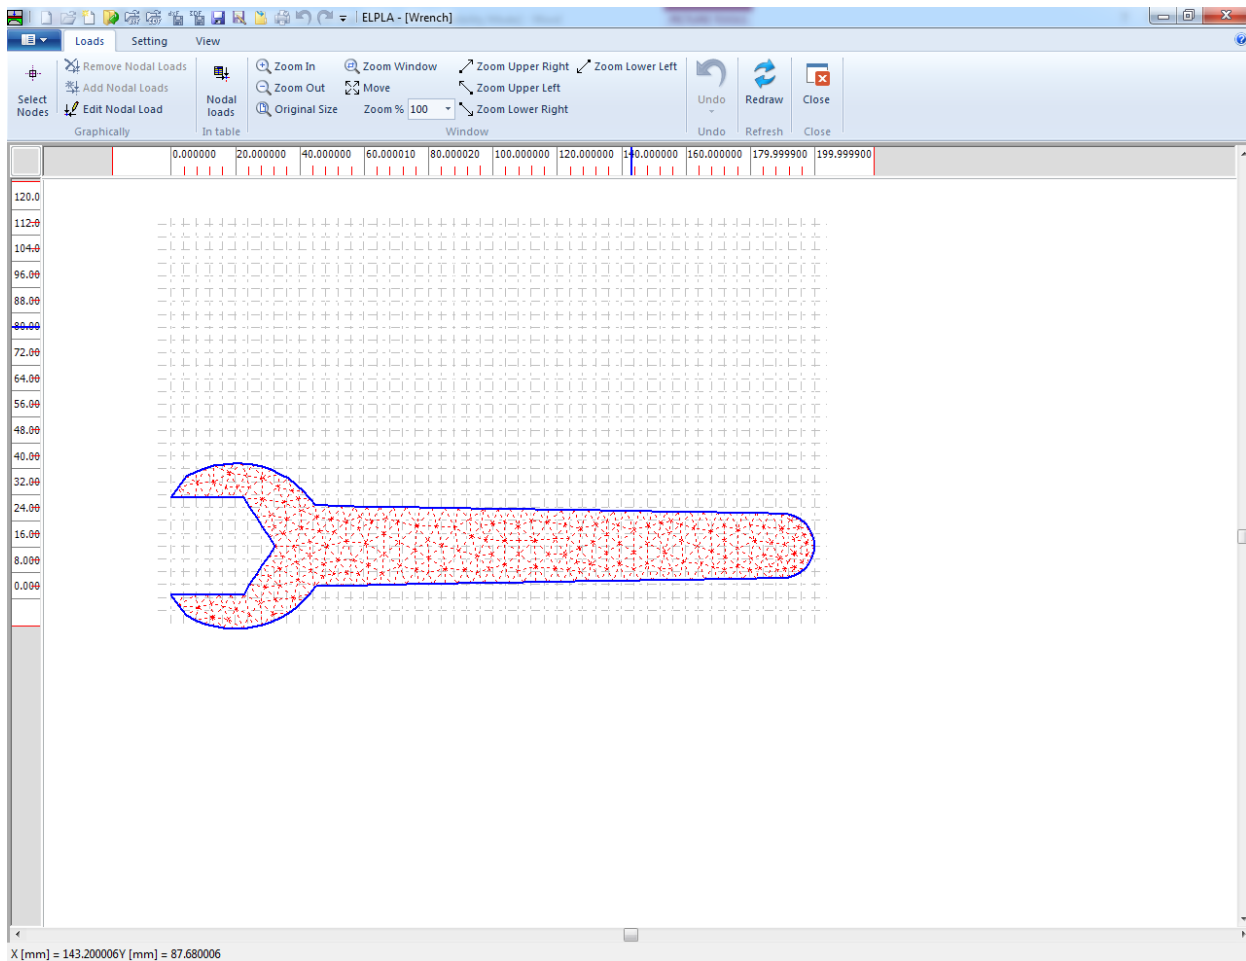

Figure 5.25 "Loads" Window
To define the load applied to the wrench, choose "Loads" command from "Data" Tab. The following Window in Figure 5.25 appears.
- Choose "Select Nodes" command from the "Graphically" menu in Figure 5.25. When "Select nodes" command is chosen, the cursor will change from an arrow to a cross hair